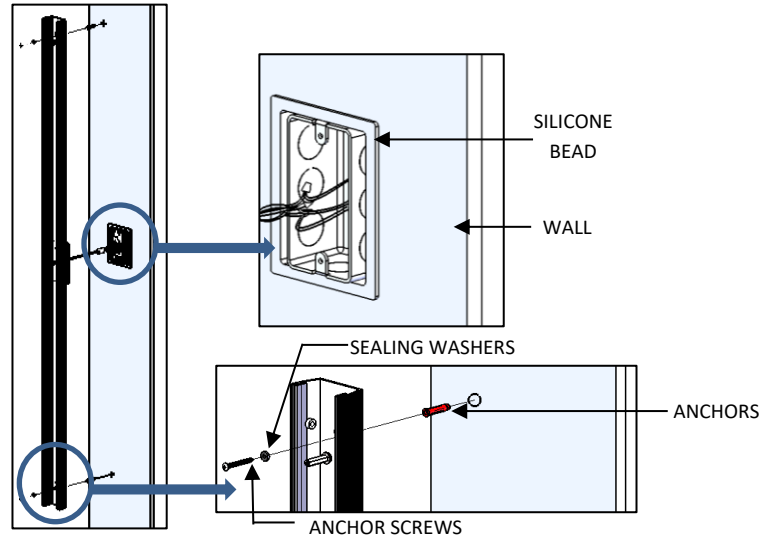

FIG.11 – BACK-CHANNEL ASSEMBLY TO J-BOX
- Mark ANCHOR HOLE locations on wall using BACK-CHANNEL. Drill 3/16" dia. holes and insert provided ANCHORS as shown in FIG. 11.